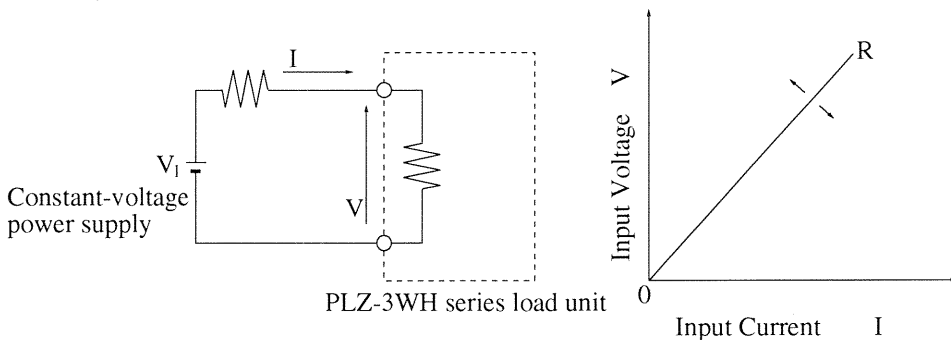

Fig. 4.3-2
■ **Basic operation of CR mode (see Fig. 4.3-2)**